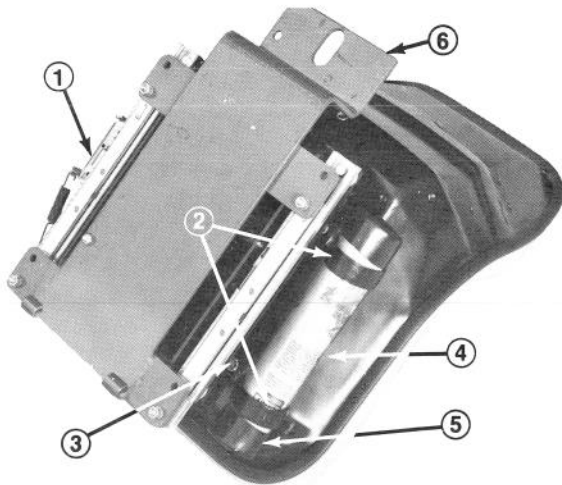

Figure 11
over right front and right rear capscrews of seat and install and tighten nuts to secure all four locations (Fig. 11). Install manual tube into R-clamps, insert manual into tube and place cap over tube end (Fig. 11).
7. Mount seat support over four threaded studs at the bottom of seat suspension assembly and secure in place with lockwashers and nuts (Fig. 11).